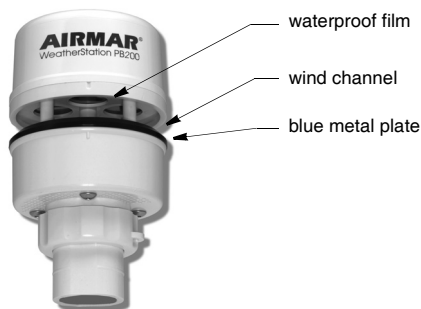

Figure 8. Wind channel
**CAUTION:** The blue metal plate and the blue waterproof film found in the wind channel of the WeatherStation instrument are essential to its operation (see Figure 8). The blue waterproof film protects the transducers, so *be careful* to keep it intact. Do not to scratch the metal plate or damage it in any way.